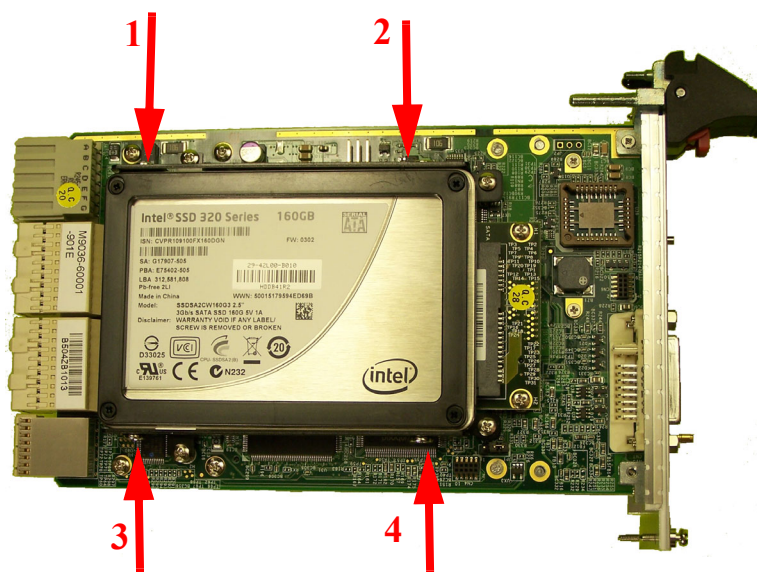

Figure 14 Remove the four side screws as indicated.
- 3 Remove the hard drive from the M9036A as shown in Figure 14